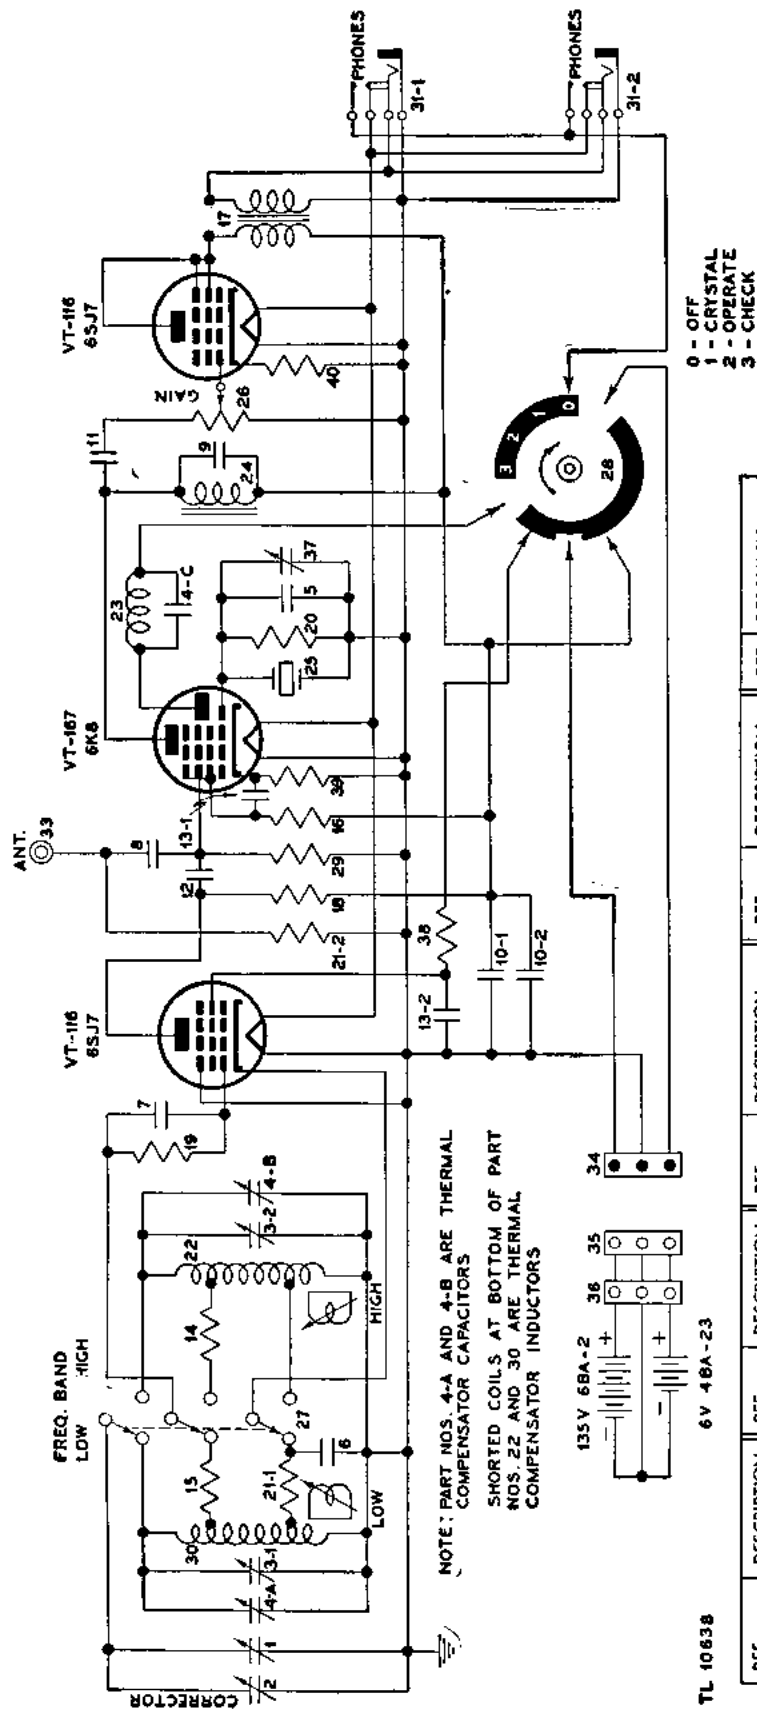

Figure 87. Frequency Meter BC-221-AE, schematic diagram.
while the numbers out of parentheses apply to the BC-221-AE. Other differences are covered by footnotes on the functional diagrams. As an example of the numbering system, the designation 39 (37) means part No. 39 of the BC-221-AE and part No. 37 of the BC-221-AG. For further details see figures 87 and 88.
e. OSCILLATOR FUNCTION. (1) The variable frequency oscillator circuit is in operation at the CHECK and OPERATE positions of the operation switch 28. (See figs. 87 and 88.)
(2) At the CHECK position, the output of oscillator Tube VT-116 (6SJ7) is applied to one of the grids of detector-converter Tube VT-167 (6K8) where it is mixed with the output frequency of the crystal circuit. The result is a frequency equal to the difference of the two and is used to adjust the frequency of the oscillator by means of the CORRECTOR control.
266. Power Supply Circuit (figs. 87 and 88)